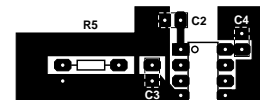

Figure 25. Top Layer of Printed Circuit Board Layout.
2. Exact offset value is dependent on layout of external bypass capacitors. The offset value in the data sheet corresponds to HP's recommended layout (see Figures 25 and 26).
In addition to affecting offset, the layout of the PC board can also affect the common mode rejection (CMR) performance of the isolation amplifier, due primarily to stray capacitive coupling between the input and the output circuits. To obtain optimal CMR performance, the layout of the printed circuit board (PCB) should minimize any stray coupling by maintaining the maximum possible distance between the input and output sides of the circuit and ensuring that any ground plane on the PCB does not pass directly below the HCPL-7840. Using surface mount components can help achieve many of the PCB objectives discussed in the preceding paragraphs. An example through-hole PCB layout illustrating some of the more important layout recommendations is shown in Figures 25 and 26. See Application Note 1078, *Designing with Hewlett-Packard Isolation Amplifiers*, for more information on PCB layout considerations.